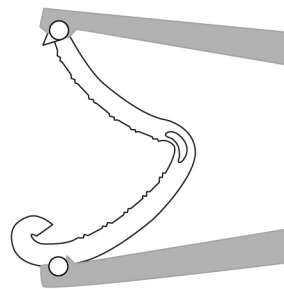
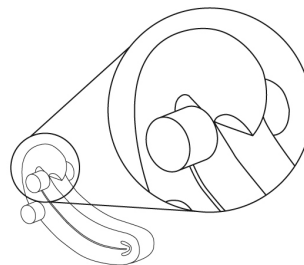

Figure 4.1 Clip loaded in clip applier
Figure 4.2 Clip locked detail
Slightly rocking the jaws back and forth may assist in loading the clip. Do not force the instrument into the cartridge or onto the clip. The instrument should enter and withdraw from the cartridge easily (Figure 4.1).
2. After the instrument is inserted past the SP Cannula and in the surgeon's control, position the clip around the tissue to be ligated. During application, orient the single tooth of the clip as shown (Figure 4.1). This allows the user to visually confirm encapsulation of the structure being ligated. Position the clip around the tissue to be ligated in a manner that provides clear visualization of the locking mechanism (Figure 4.2).